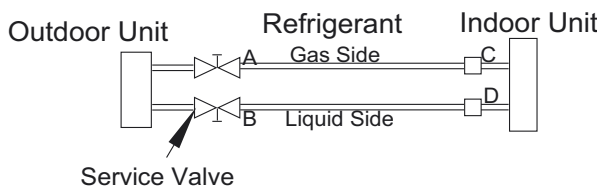

Fig. 6 – Service Valve
- 1 Completely tighten flare nuts on the line set at both the indoor and outdoor units. **DO NOT** open the service valves on the outdoor unit for the new installation or the replacement unit. Open the service valves on the outdoor unit if repairs have been made to the refrigerant sealed system. Connect the manifold gauge low pressure hose to the charge port of the gas side service valve (see Fig. 6).